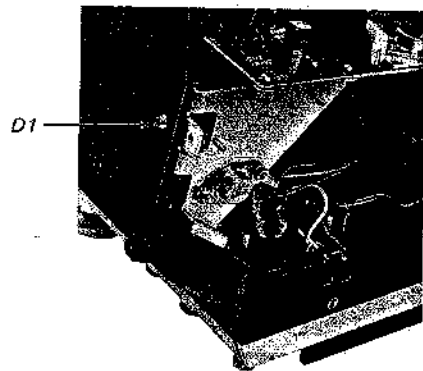

Fig. 2-6.
3. Remove the one screw labeled D1 in Fig. 2-6.